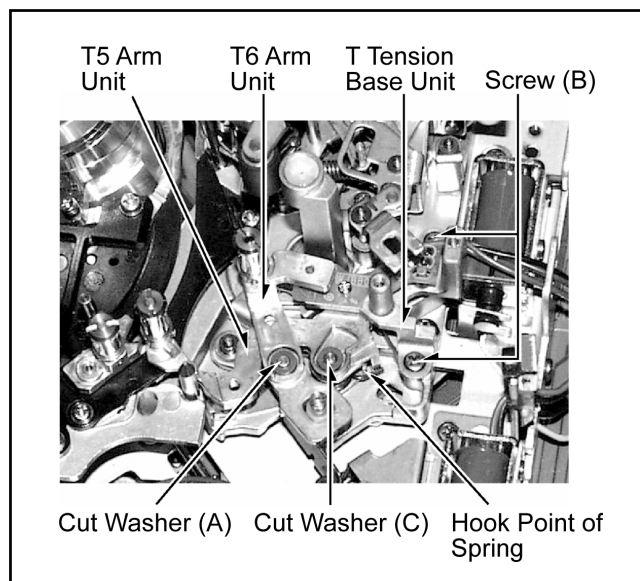

Figure 2-15
1. Remove the Cut Washer (A) and Washer as shown in figure 2-15, and remove the T6 Arm Unit.
3. Unscrew the 2 screws (B) as shown in figure 2-15, and remove the T Tension Base Unit.
4. Remove the Cut Washer (C) and Washer as shown in figure 2-15, and remove the T5 Arm Unit.